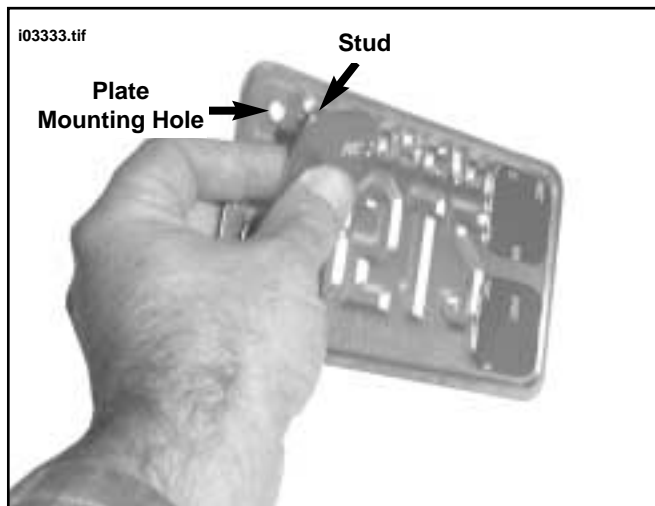

Figure 3. Align Studs to Outside Corners of License Plate
13. See Figure 3. Obtain license plate studs and align as shown, then install each of the four stud plates through the mounting holes in the license plate using acorn nuts with flat washers. **NOTE: Finger tighten only; nuts and washers will be removed and re-installed.**